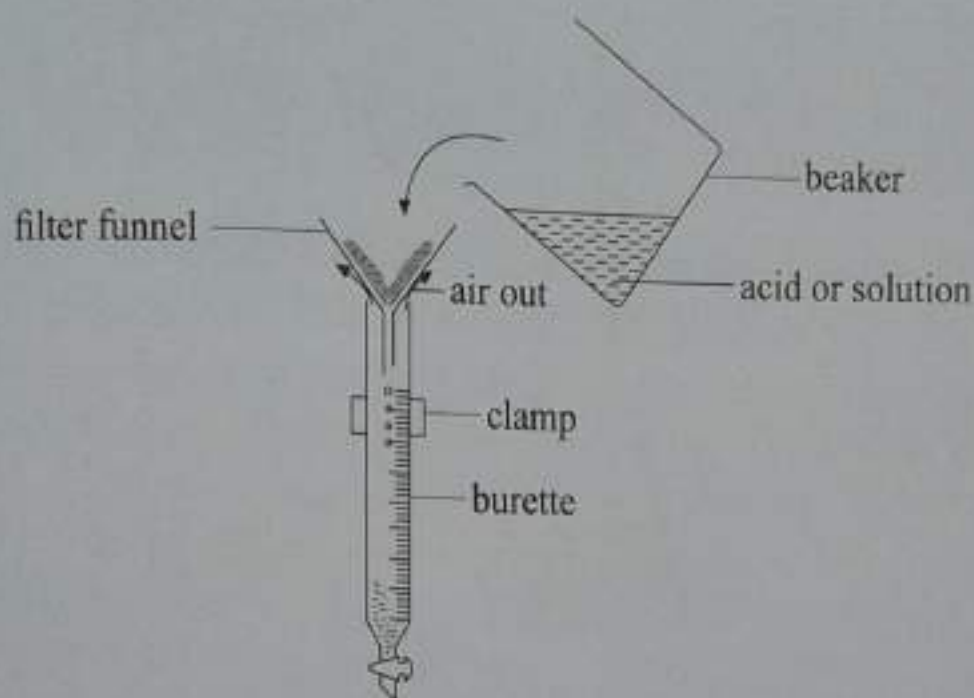

Fig. 4.6: Correct way of filling a burette
- Using a filter funnel and a beaker, fill the burette with the acid or the solution to be used up to above the 0 cm^3 graduation mark. When filling the burette, hold the funnel with one hand so that air can escape as you fill the burette otherwise air will hold the acid in the funnel and when you lift the funnel, the acid quickly fills the burette and spills over. See Fig. 4.6.